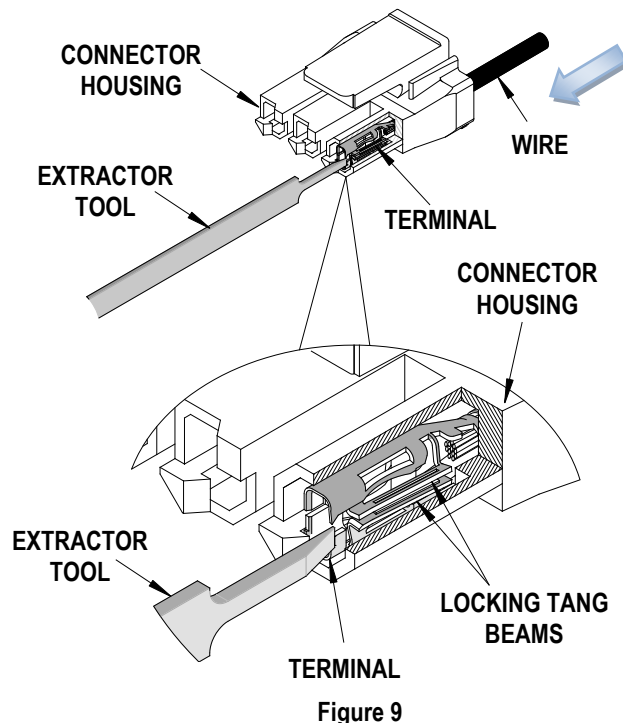

Figure 9
2. Push the terminal forward in the arrow direction before using the Extractor Tool as shown in Figure 9. Insert the Extractor Tool into the slot on the side of the connector housing.